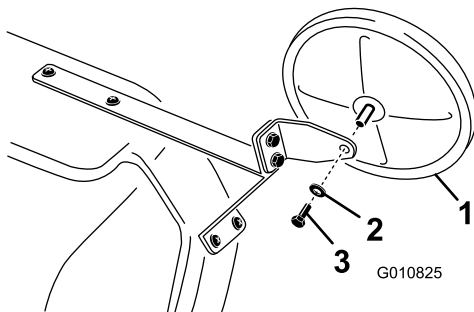

Figure 9
11. Secure the mirror to the mirror mount using the supplied screw and washer (Figure 9).